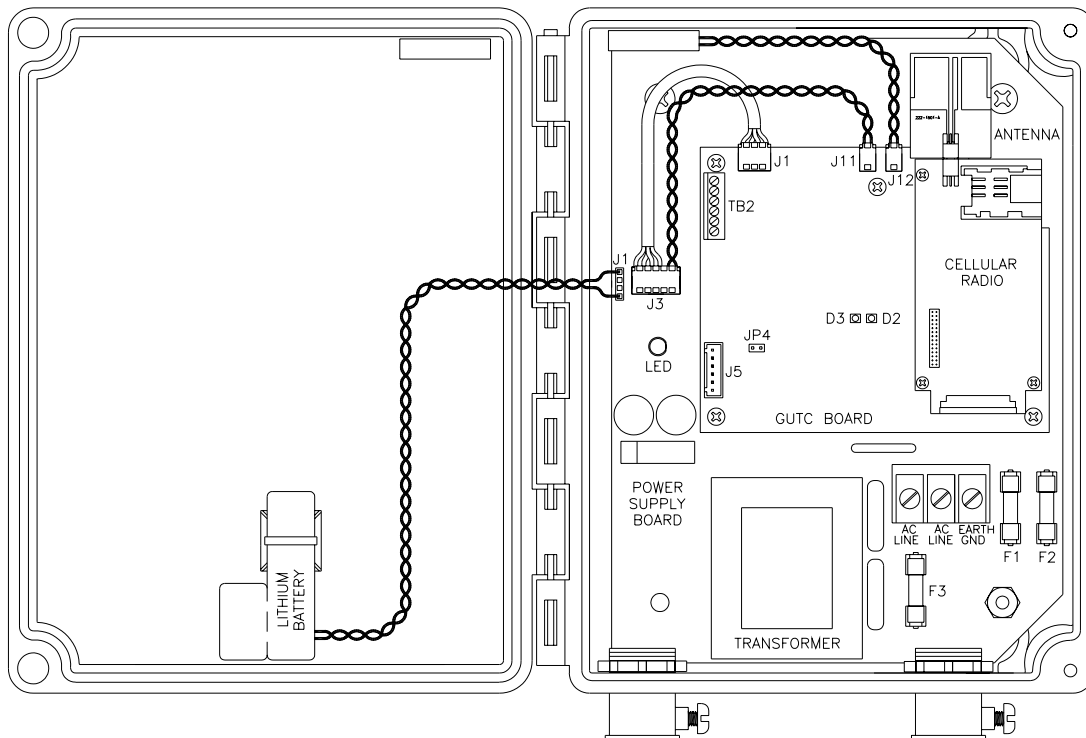

Figure 2-1
- Figure 2-1 DCM-200 with the standard internal antenna.
Figure 2-1 below illustrates the DCM-200 in the standard configuration with the internal antenna. This antenna must be removed to permit attachment to the external antenna. The connector type used on the cellular radio is known as an ‘MMCX’ connector, and is a press-fit attachment rather than a threaded fitting. Some care must be observed to avoid potential damage to the delicate miniaturized connector on the cellular radio.